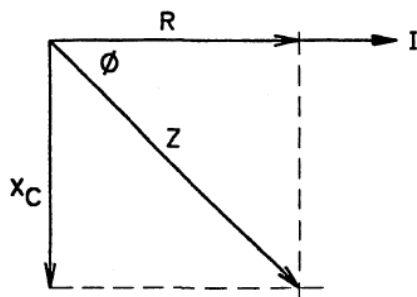

Figure 7 - Phasor diagram of R and C in series
28. Using the current phasor as a reference, the resistance of the resistor and the capacitive reactance of the capacitor could be drawn 90° out of phase as shown in Figure 7. The resultant (Z) is the total opposition to current flow in the circuit.